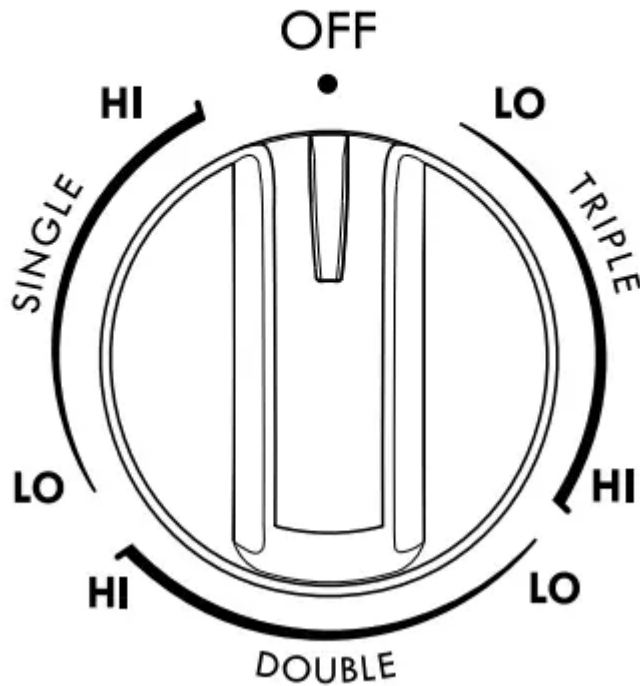

Figure 14: Triple radiant element
2. Push in and turn the surface control knob clockwise to begin heating both the inner and outer portions of the element (See Figure 13 and Figure 14). If only the inner heating portion is needed for smaller cookware, push in and turn the knob counter-clockwise (See Figure 13 and Figure 14). Please note that all three element portions will adjust to the same power level.